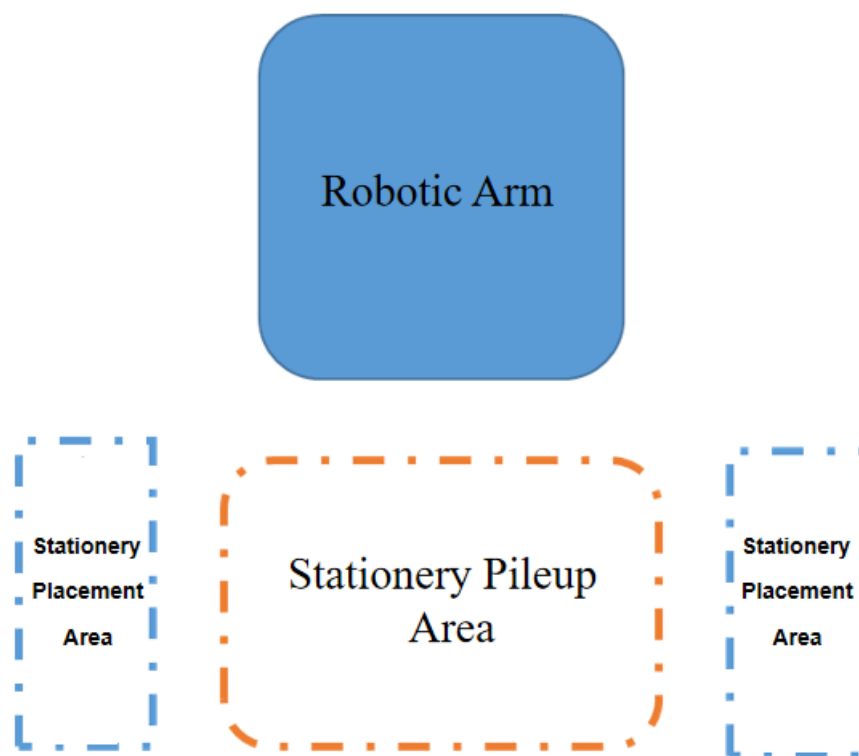

Figure 4.21 Stationery classification experiment
(1) Prepare Hardware
Step 1: Design the experiment map, and set the equipment. Figure 4.21 shows the reference map.